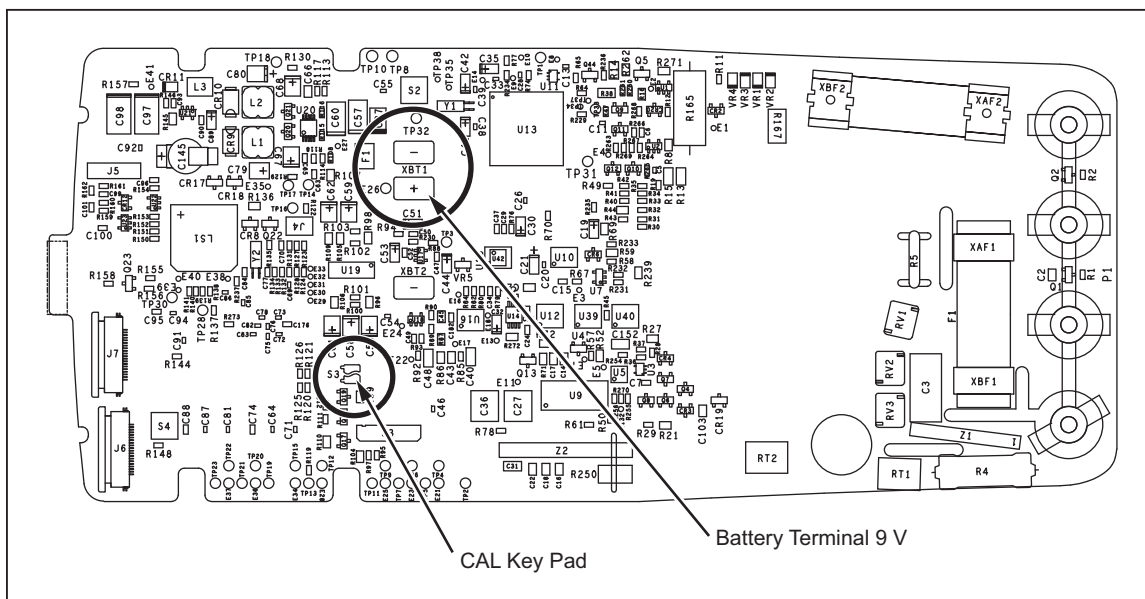

Figure 4. PCA Component Location
2. Locate the PCA Battery Terminals as shown in Figure 4. Observing correct polarity, use an external lab supply or battery to apply 9 volts to the PCA battery terminals. TP8 and TP10 can also be used to apply power to the PCA.